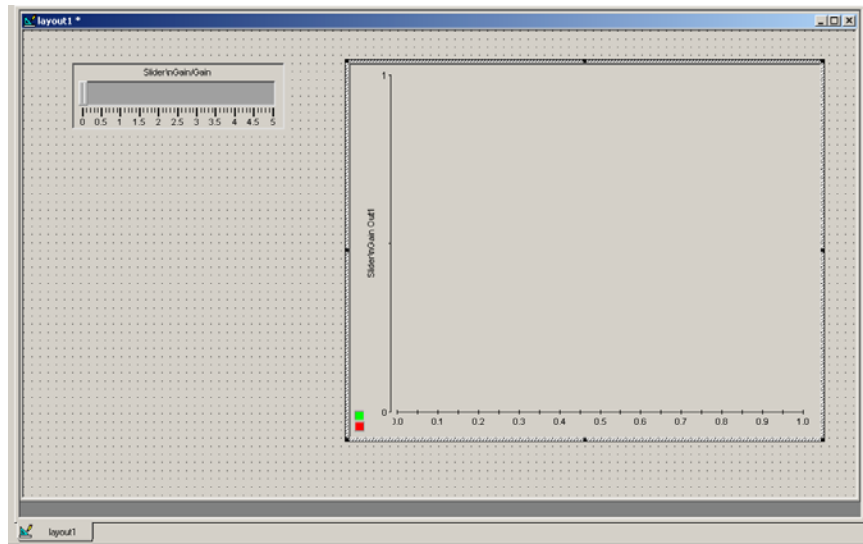

Figure 2.14: Drawing a Plotter for Signal Monitoring
- When dragging the second signal, make sure that you release the mouse button above the first one, on the vertical axis. Otherwise, a new vertical axis will be drawn, and you will have less available space for visualize the waveforms. Now both signals are assigned to the plotter and will be displayed with different colors. The label on the vertical axis will show only the last signal dragged to the scope. You should have your layout as shown in Fig. 2.14